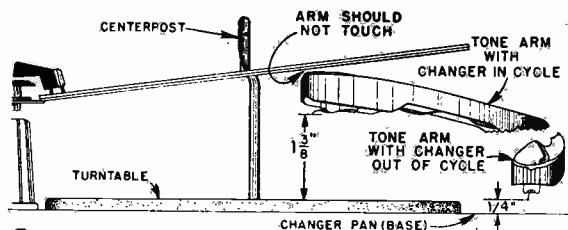

Figure 6. Checking Tone Arm Height.
This record changer is so designed that the tone arm will clear the bottom record of a stack to be played if the needle is  $\frac{1}{4}$ " above the changer pan when the changer is not in change cycle and  $1\frac{3}{8}$ " above the turntable during change cycle. See Figure 6. With proper tone arm height setting, the tone arm will lift high enough during change cycle to clear a complete stack of records of any type on the turntable. This stack may consist of as many records as specified on page 1. Make this adjustment by placing the size and speed selector knob (26) in the "78-10" position, check